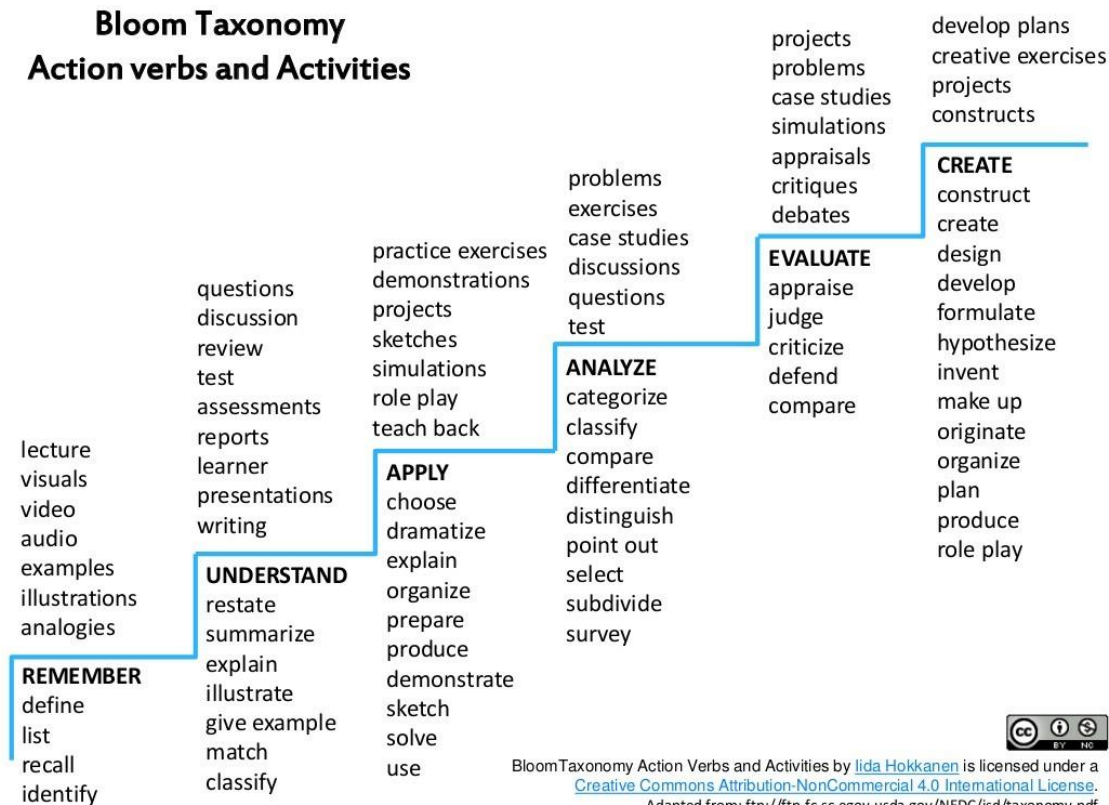

Figure 4 Bloom taxonomy action verbs and activities (Source: Hokkanen, 2015)]
The following process (Figure 4) was used in development of harmonized EU-wide learning outcomes. First, BIM EE Roles/Responsibilities (R, R2) are identified. Skills (S), Knowledge (K), Competences (C) and Learning Outcomes (LO) are defined for the different roles in design and building and maintenance process by partners from their country perspective (France, Finland, Greece, Luxembourg and United Kingdom). Then all deliveries produced during BIMEET and other relevant EU-projects are mapped. Results of the same elements (R2, SKC and R (Roles)) are collected and stored in Super Matrix. The first draft of EU-wide Learning Outcome Matrix is produced after the assessment of the most important and relevant learning outcomes. The so produced learning outcomes are then validated within the consortium and validated with the help of the expert panel of the project resulting to the final product of D2.3.
The process used to develop the learning outcomes furthermore also relates to the case based approach. It focuses on mapping the standard RIBA Plan of Work stages and identified stakeholders followed by the process to defining learning outcomes for the role based courses. The three categories of KSC should be collectively perceived and should not be read in isolation from each other. Figure 4 and 4 highlights some of the action verbs used to define the levels of taxonomy in the cognitive domain.